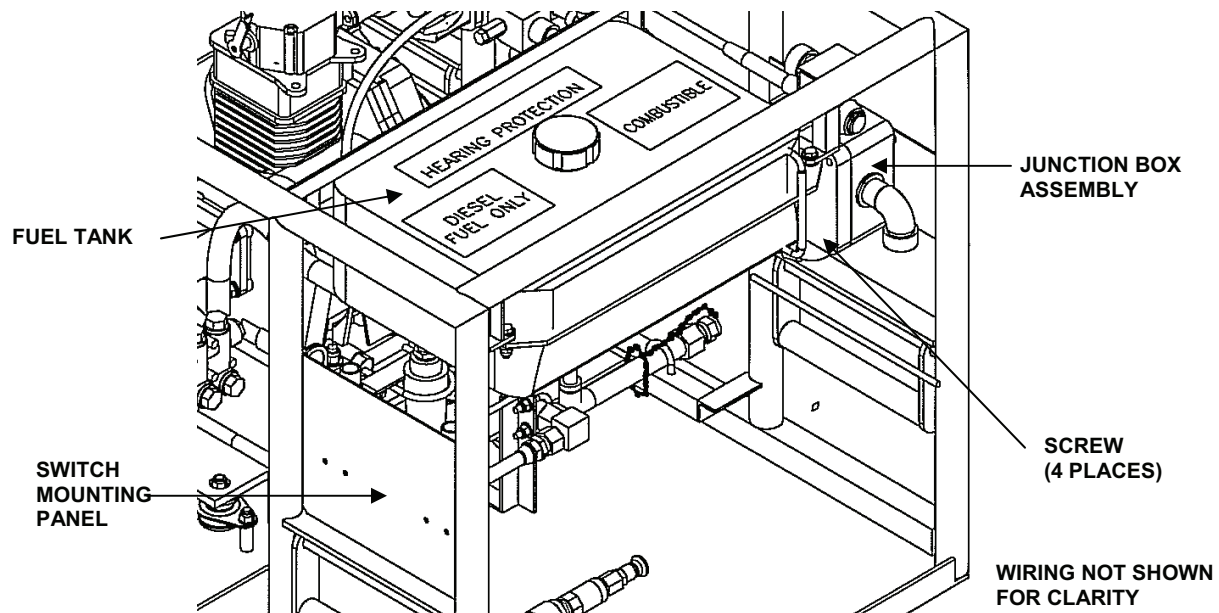

Figure 1. Junction Box Assembly.
2. Loosen four screws on junction box cover. Remove junction box cover. See Figure 1.